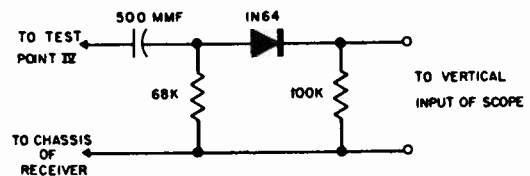

Fig. 17. Detector Network
2. Connect detector network (Figure 17) to Test Point IV and set contrast to maximum. Connect oscilloscope to network.